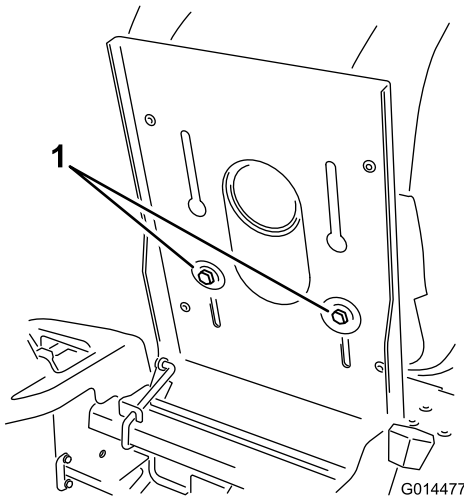

Figure 22
1. Raise the seat, and loosen the adjustment bolts just enough, so that the seat can move (Figure 22).